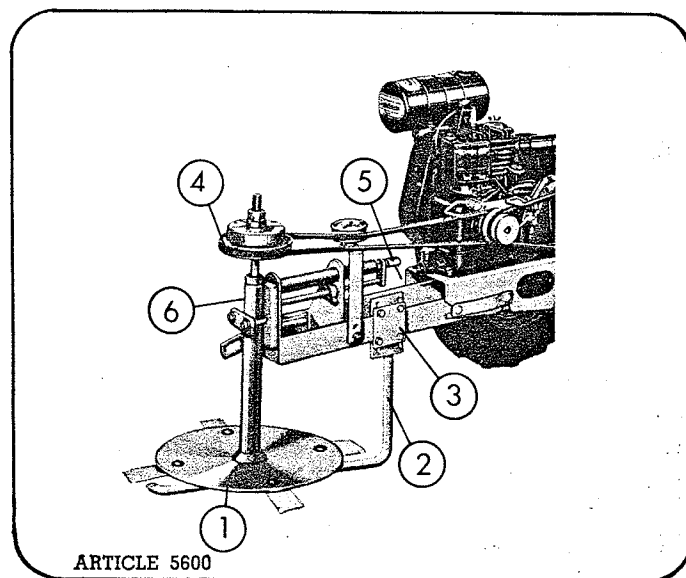

Figure 4
(See Fig. 4)
1. To install Weed Cutter place saw frame in position as illustrated in Fig. 4.
2. Attach Weed Cutter Head (1, Fig. 4) to lower end of arbor with flange and hex nut. To insure tightness tap wrench with hammer.
3. Remove stand and stand rod and attach gage shoe assembly (2, Fig. 4) with gage clamp plate (3, Fig. 4) and four carriage bolts as shown.
4. Place belt around arbor pulley (4, Fig. 4) and inside groove of engine pulley so that belt rides on idler pulley. See note on page 13.
5. Tighten belt with belt tightener adjusting screw (5, Fig. 4) and lock with nut.
1. Height of cut may be regulated by raising or lowering arbor (6, Fig. 4).
2. Rotary Weed Cutter Head may be adjusted parallel to the ground by raising or lowering gage shoe assembly (2, Fig. 4).